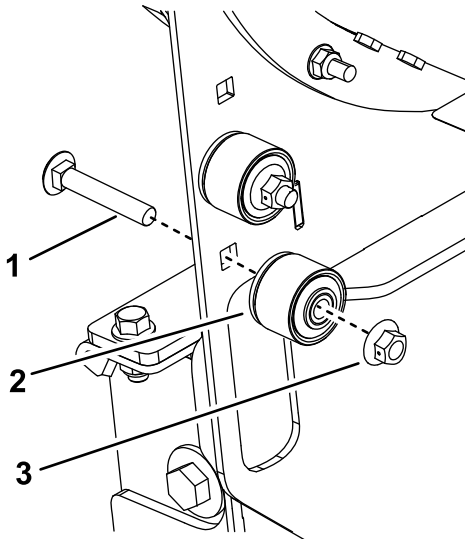

Figure 27
10. Use the fasteners to store the bushing assemblies on the left side of the blower frame (Figure 27).